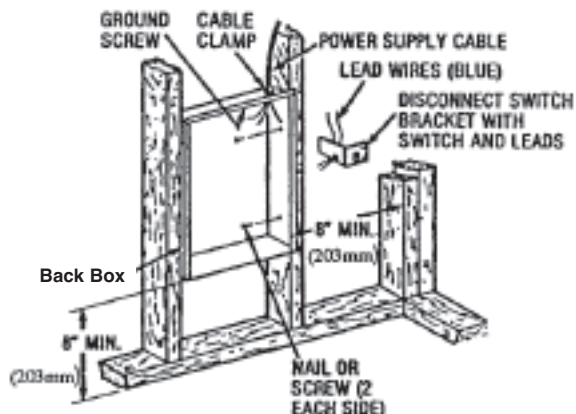

Fig. 1: Locating Back Box in New Construction
1. Mounting Back Box (See Figure 1).
- c. Secure the back box in position with wood screws or nails as shown in Figure 1.
2. Power Supply Wiring (See Figure 1)